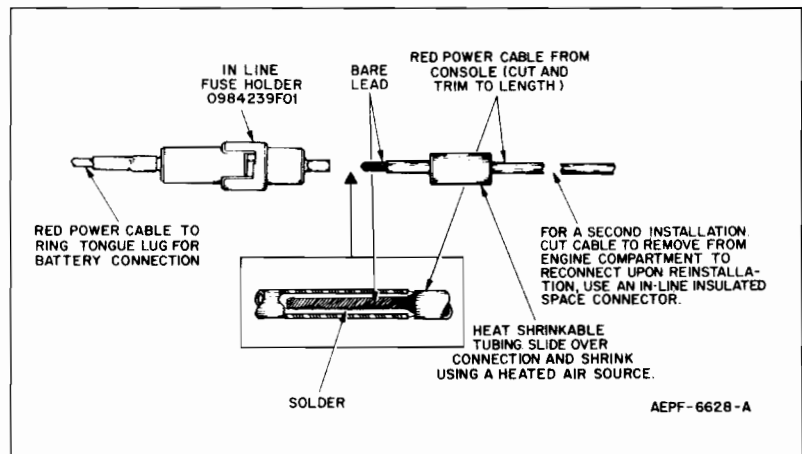

Figure 6.
- Refer to Figure 6. Cut and trim to length the red power lead and connect the red lead to the fuseholder.